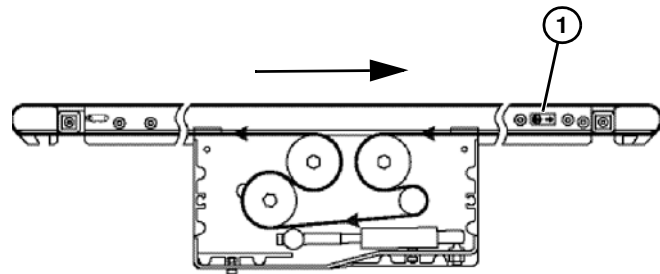

Figure 69
*On a center drive conveyors, belt travel direction is identified by an arrow decal on the side of the conveyor (**Figure 69, item 1**) & (**Figure 70, item 1**).*